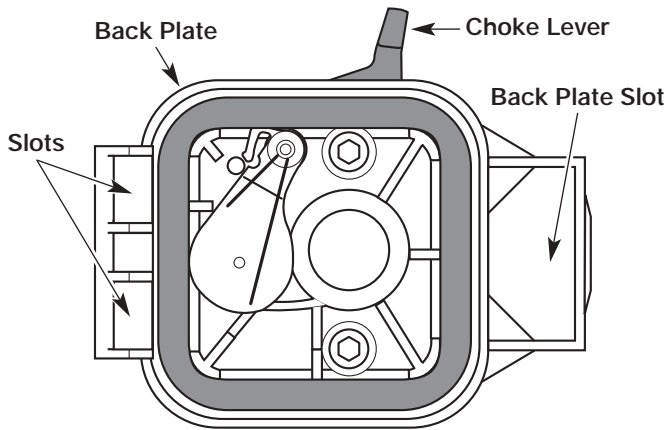

Fig. 36
5. Squeeze the filter to spread and remove excess oil (Fig. 36).
7. Reinstall the air filter cover. Position the hooks on the left side of the air filter cover into the slots at the left side of the back plate (Fig. 36).
8. Swing the cover to the right until the tab on the air filter cover snaps into place in the slot on the back plate (Fig. 36).